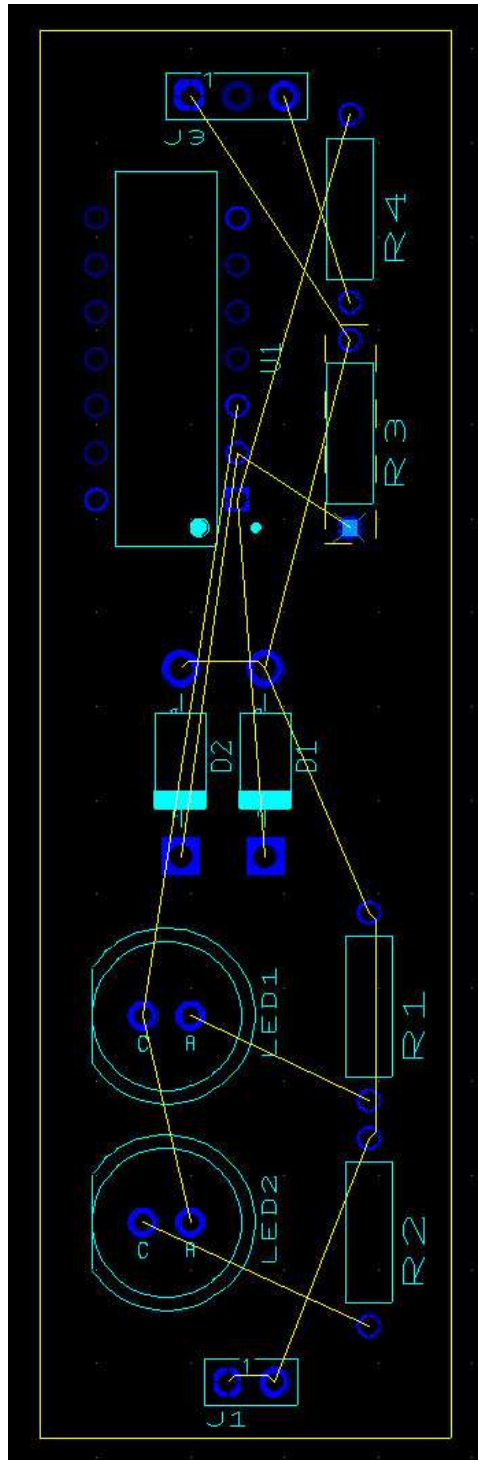

Figure 2:
- The new ultiboard design will appear on the screen as a jumbled mess of components. We call this the "rat's nest." The components are shown as blue outlines which represent the size and shape of the actual parts. The yellow lines indicate the necessary connections that need to be made between the component pins. The yellow box is called the keep-in boundary. This represents the actual dimensions of the finished board. The brown lines are called Force Vectors and are supposedly a tool to help in positioning components, but their usefulness is widely disputed so we will ignore them. Your rat's nest should look similar (but not identical) to the one below in Figure 2.
- Click *OK* and it will return you to the design window and the box will now be smaller and square, as shown in Figure 2.
- Be sure to leave some open space along one edge as seen on the right side of Figure 2. We need this space for labels in a later step.
- If you like you can try to copy the example in Figure 2, but remember yours probably won't be an exact match so don't compare the designs by component names, instead identify parts by what they connect to. Regardless, your design will differ enough to not be able to copy it exactly, rather use the sample as a guide for where to place components in general.